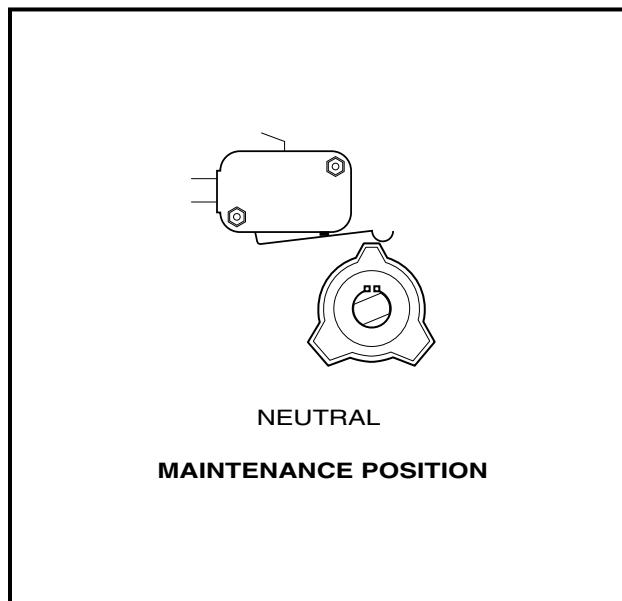

Figure 3-2 Neutral Lockout – Maintenance Position for Pedal-Start Vehicles
- 5.1.1. Place the neutral lockout cam in the MAINTENANCE position (**Figure 3-2, Page 3-2**).
- 5.1.1. Place the neutral lockout cam to the MAINTENANCE position (**Figure 3-2, Page 3-2**).